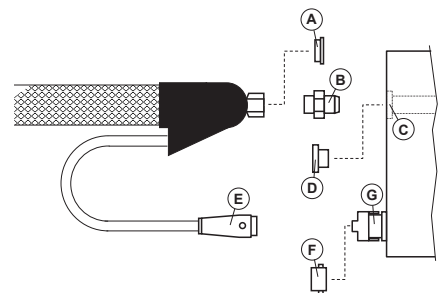

Figure 1: Hose components
1. After taking the hose from its bag and removing the protective plugs (A), select the end corresponding to the male electrical connector (see Fig.1).
2. Use a connector (B) to plug this end of the hose mechanically into one of the pump outlets available in the unit (C). To do so, choose the pump outlet(s) beforehand and remove the metallic plugs that protect them (D).
3. Also, remove the protective lid of one of the supports, located at the rear of the unit, and fasten the male electrical connector of the hose (E).